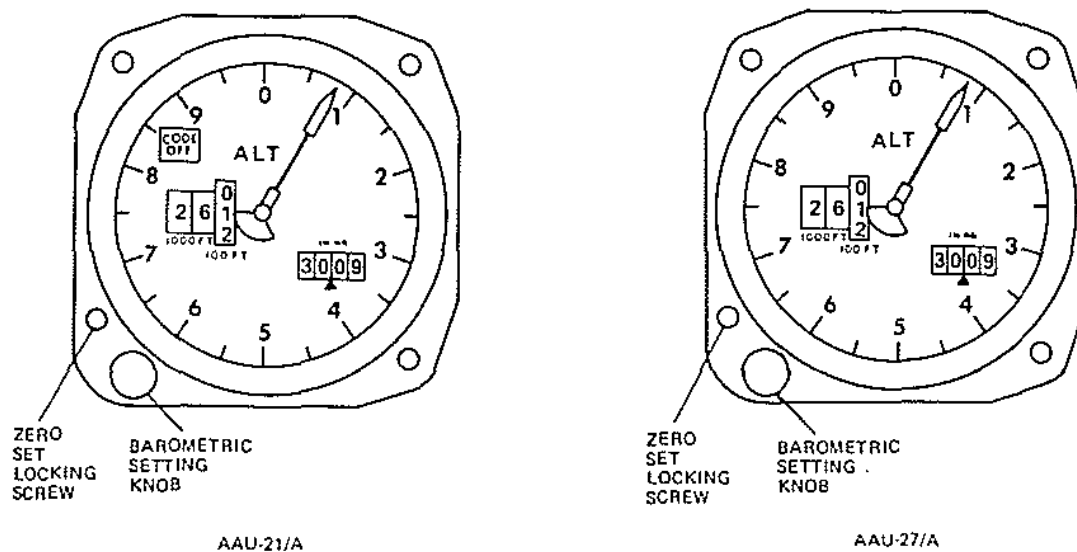

Figure 1-45. Altimeter - Encoder AAU-21/A and Altimeter AAU-27/A
One altimeter-encoder (figure 1-45) is installed in the pilot's instrument panel. The altimeter-encoder combines a conventional barometric type altimeter, possessing a counter-drum-pointer display, with an altitude reporting encoder in one self-contained unit. The 10,000 and 1000 foot counters and the 100-foot drum provide a direct digital output and readout of altitude in increments of 100 feet, from -1000 to 38,000 feet. The digital output is referenced to 29.92 in Hg and is not affected by changes of barometric setting. The pointer repeats the indications of the 100-foot drum, and serves both as a vernier for the drum and as a quick indication of the rate and sense of altitude changes. Two methods may be used to read indicated altitude on the counter-drum-pointer altimeter: (1) read the counter-drum window, without reference to the pointer, as a direct digital readout in thousands and hundreds of feet, or (2) read the thousands of feet on the two counter indicators, without referring to the drum, and then add the 100-foot pointer indication. The self-contained servo-driven encoder provides altitude encoded in 100-foot increments for automatic transmission when the AIMS/IFF transponder is interrogated on mode C. In case of power loss to the encoder servo system, a CODE OFF flag appears automatically in a window in the upper left portion of the display, indicating that altitude information is no longer being transmitted to the ground. In this condition, the instrument continues to function as a normal barometric altimeter. The barometric pressure is entered by use of a barometric set knob in the lower left front of the instrument case. The altimeter setting appears on counters in the window at the lower right of the display and has a range of settings from 28.1 to 31.0 in Hg. An internal vibrator operates continuously whenever aircraft dc
One altimeter (figure 1-45) is installed in the copilot's flight instrument panel. The instrument is similar to the altimeter-encoder except it does not have an altitude encoder nor the CODE OFF display mechanism. The indicated altitude on the altimeter is from -1000 to 50,000 feet. The altitude display, altimeter setting, and vibrator considerations described for the altimeter-encoder also apply to the altimeter.